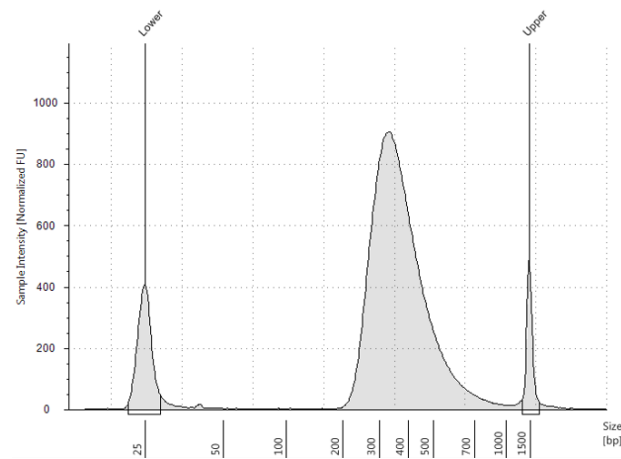
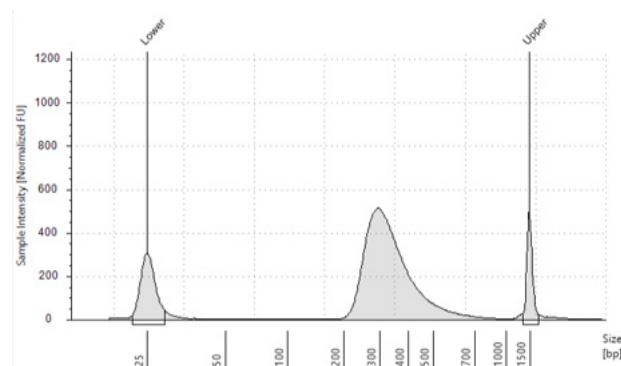
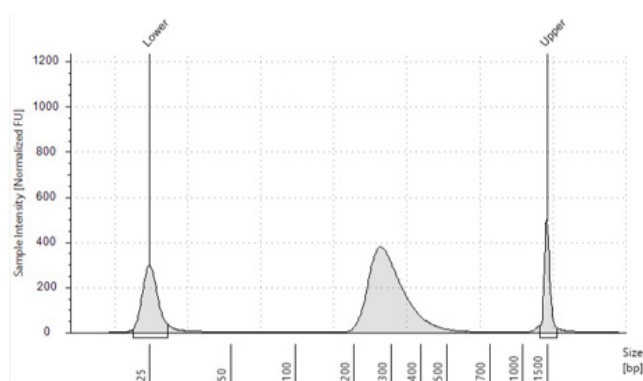

Figure 20 Post-capture library prepared from a high-quality gDNA sample analyzed using a High Sensitivity D1000 ScreenTape assay.
Figure 21 Post-capture library prepared from a typical FFPE gDNA sample analyzed using a High Sensitivity D1000 ScreenTape assay.
Figure 22 Post-capture library prepared from a low-quality FFPE gDNA sample analyzed using a High Sensitivity D1000 ScreenTape assay.
- 14 Verify that the electropherogram shows the expected DNA fragment size peak position (see Table 71 for guidelines). Sample electropherograms are shown in Figure 20 (library prepared from high-quality DNA), Figure 21 (library prepared from medium-quality FFPE DNA), and Figure 22 (library prepared from low-quality FFPE DNA).
Using manual preparation of the analytical samples, you can analyze the DNA samples on Agilent 2100 BioAnalyzer, Agilent 5200 Fragment Analyzer, or Agilent 4200/4150 TapeStation. Electropherograms obtained using one of these other analysis platforms are expected to show fragment size profiles similar to those shown for the Agilent 4200 TapeStation (see **Figure 20** through **Figure 22**). Verify that the electropherogram shows the expected DNA fragment size peak position (see **Table 71** for guidelines). **Table 72** includes links to assay instructions.